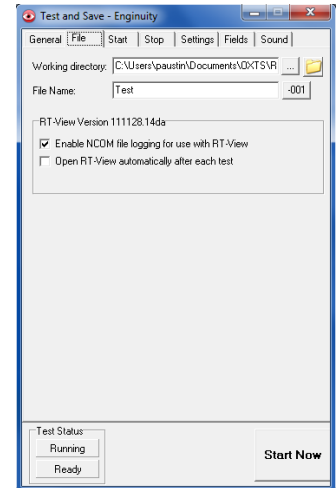

Figure 22. Test Tab
- Within Enginuity, click the "Tests" tab (Figure 22)